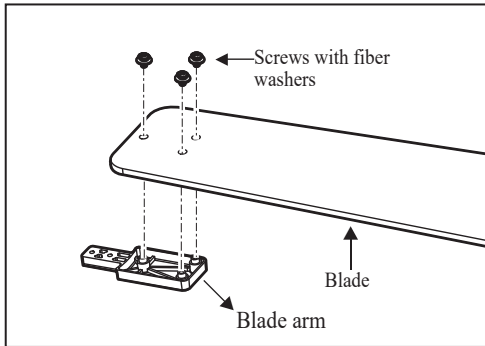

Figure 16
1. Attach the blades to the blade arms using the three blade attachment screws and fiber washers. Start a screw and fiber washer into the blade arm, but do not tighten. (Fig. 16)
2. Repeat for the two remaining blade attachment screws and fiber washers. (Fig. 16)
3. Tighten each screw securely starting with the center screw. Make sure the blade is straight. (Fig. 16)
4. Repeat these steps for the remaining blades. (Fig. 16)